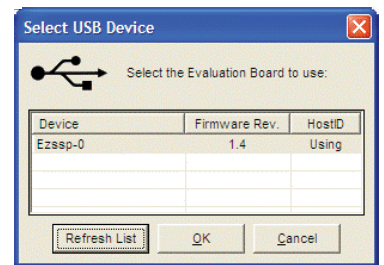

Figure 4. Select USB Device Window
- a. If the evaluation board was not automatically detected when it was connected, choose **Select Evaluation Board** from the **I/O** menu, and then select **Ezssp-0**, **Ezssp-1**, or **Ezssp-2** (see Figure 4).